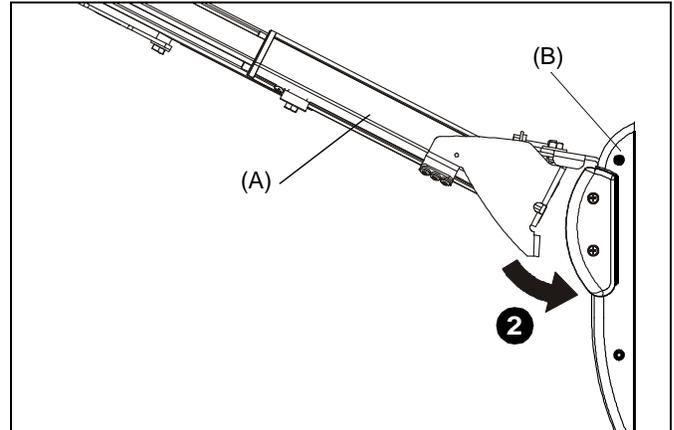

Figure 11
2. Slide lower plate onto cross bracket on wall bracket. (See Figure 11)